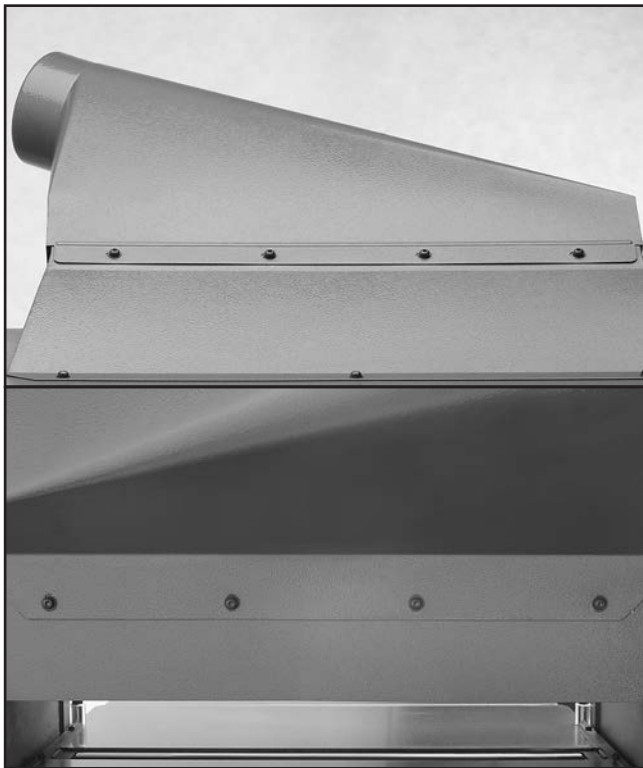

Figure 15. Top and bottom dust hood fasteners in place.
1. Attach the dust hood with the button head cap screws, lock washers, and flat washers (see **Figure 15**).